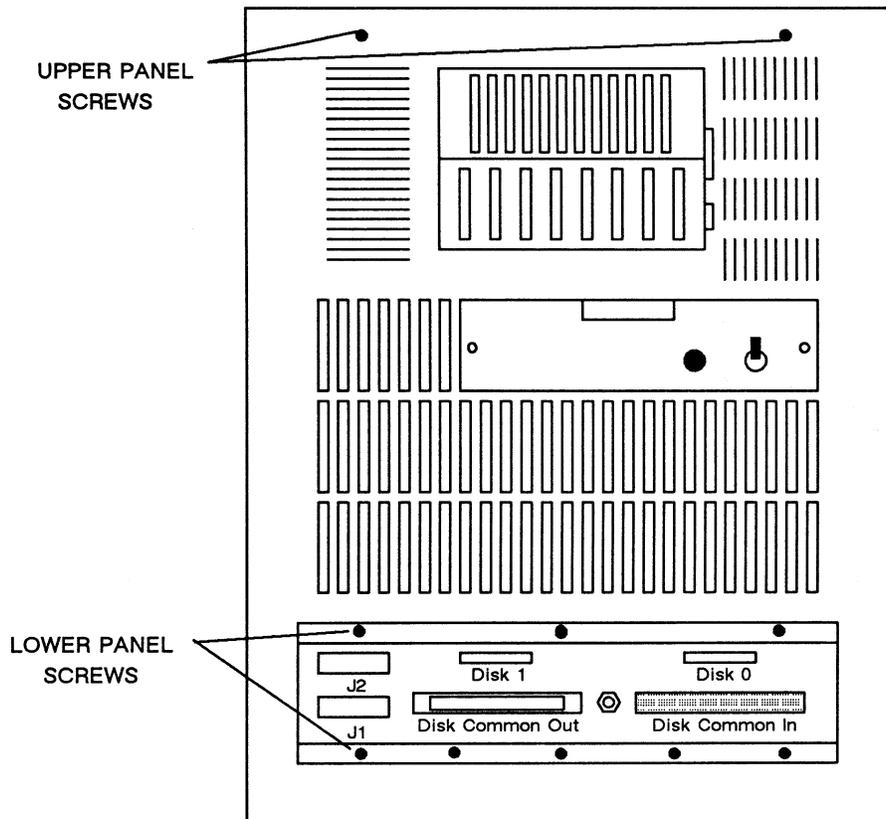

Figure 2-17. CADDServer Peripherals Cabinet, Rear Panel
1. Move to the rear of the peripherals cabinet. Using a Phillips screwdriver, remove from the upper rear panel the two screws securing the tape drive. See Figure 2-17.
Figure 2-17 shows the rear panel of a CADDServer Peripherals Cabinet.